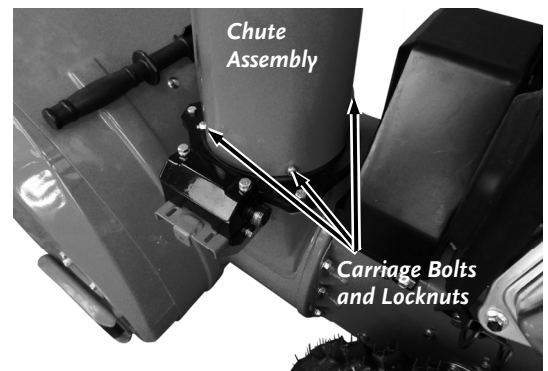

Figure 14
13. Secure the Chute Assembly to the Gear Plate Assembly with three M6-1.0 X 12MM Carriage Bolts (Pro-24) or three M8-1.25 X 16MM Carriage Bolts (All except Pro-24) and Locknuts using a 10mm Wrench (Pro-24) or 13mm Wrench (All except Pro-24) (**Figure 14**)